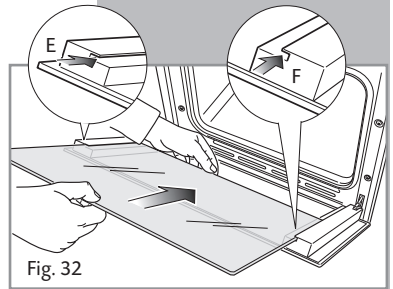
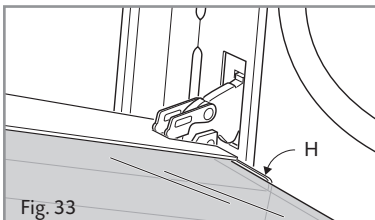

Fig. 32
Fig. 33
- Insert the pane in the left **E** and right **F** slide guides (fig. 32), and gently slide it to the retainers **H** (Fig. 33).